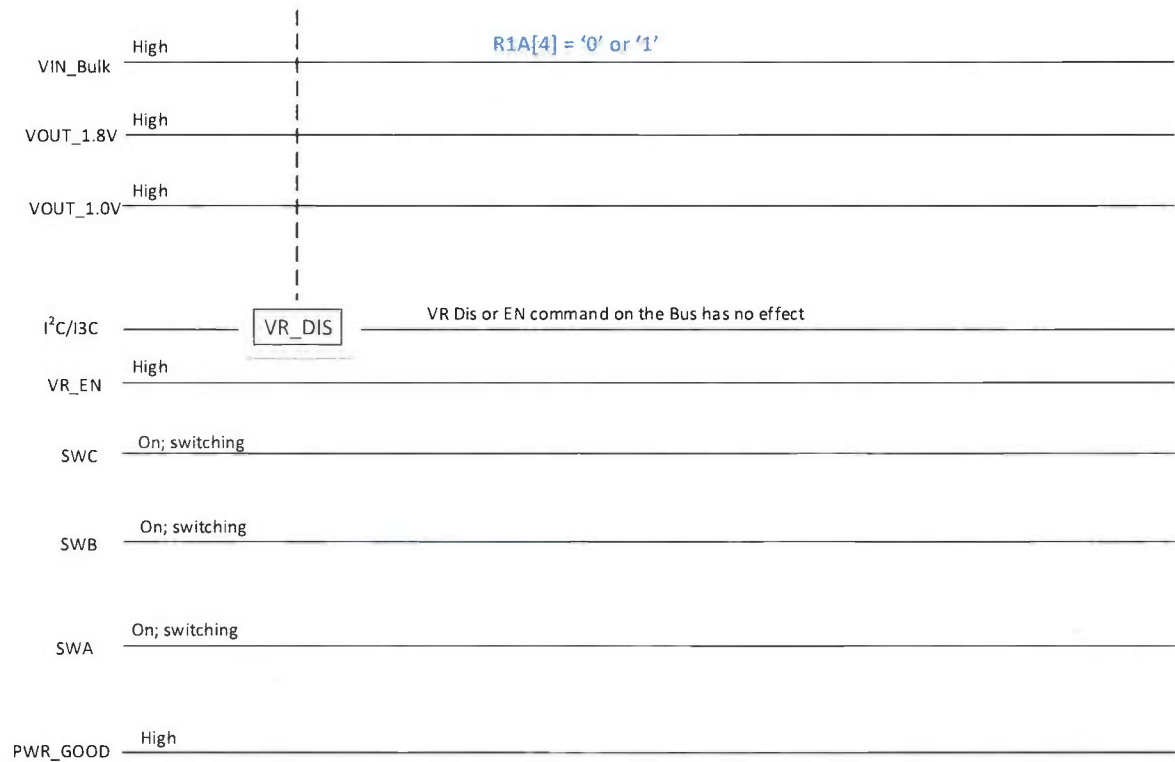

Figure 31 — VR_DIS or VR_EN CMD on Bus; R1A[4]=x; Secure Mode; PWR_GOOD Signal
- a. Note that VR Disable or Enable command on a I²C/I³C Basic Bus (i.e., Table 138, "Register 0x32" [7] = '0' or '1') has no effect on the PMIC. Also, configuring one or more bits in Table 135, "Register 0x2F" [6,4:3] to '0' has no effect on the PMIC. See Figure 31.